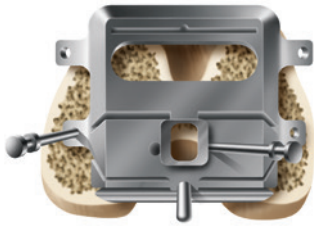

Figure 25
2. Place one pin centrally through one of the middle holes just medial or lateral to the quick-connect attachment. For additional stability, a headed pin may be placed through one or both of the holes on the medial or lateral side of the Block (**Figure 25**).